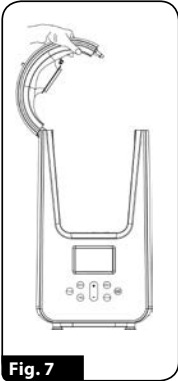

Fig. 7
- Grasp the blender housing with one hand. Lift the swivel blender top ② with the other hand into the position shown in Fig. 7.